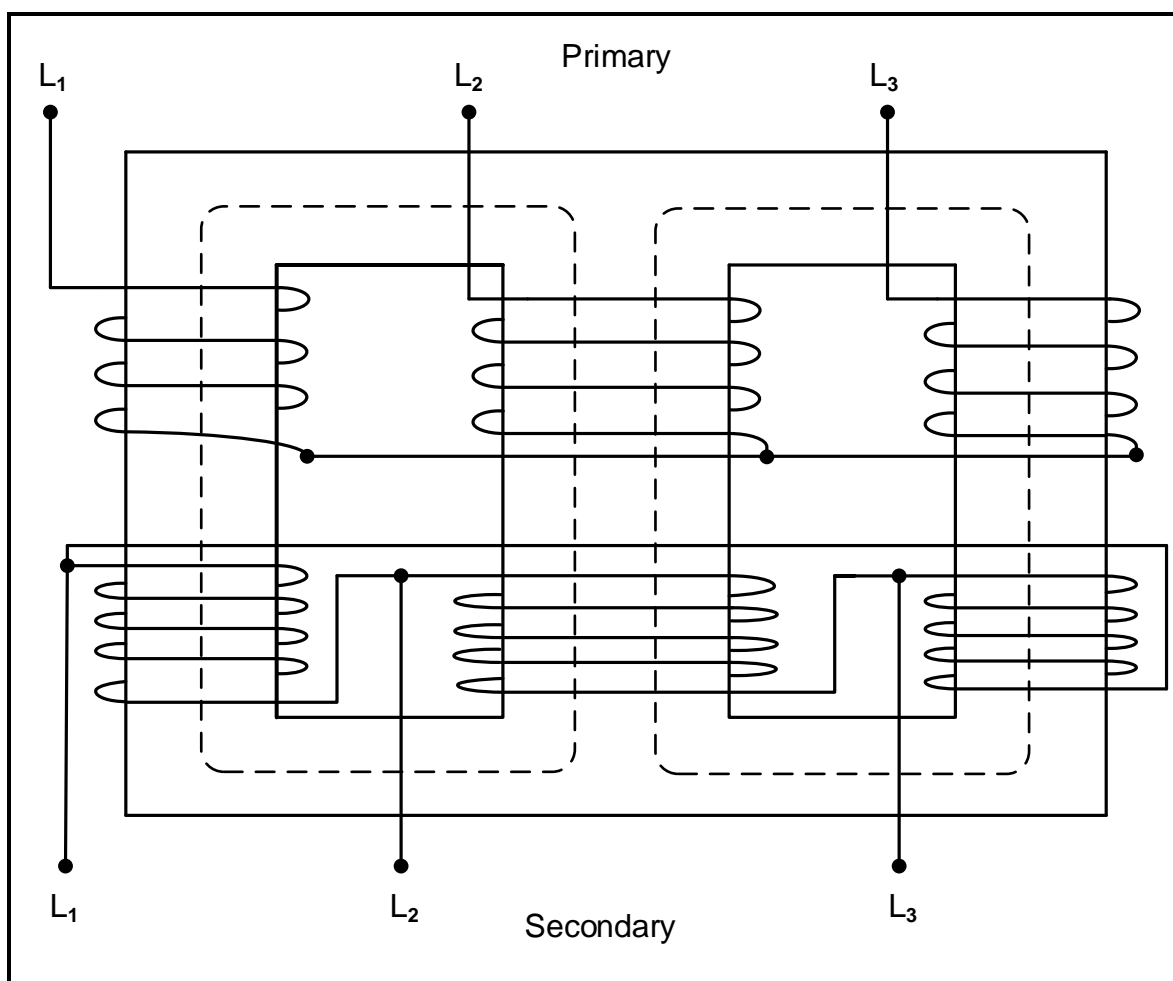

FIGURE 5.1: THREE-PHASE TRANSFORMER
5.1 Refer to FIGURE 5.1 below and answer the questions that follow.
5.1.3 State the configuration of the primary and secondary windings in FIGURE 5.1 above. (2)
5.1.4 Briefly describe the principle of operation of the three-phase transformer in FIGURE 5.1 above. (4)